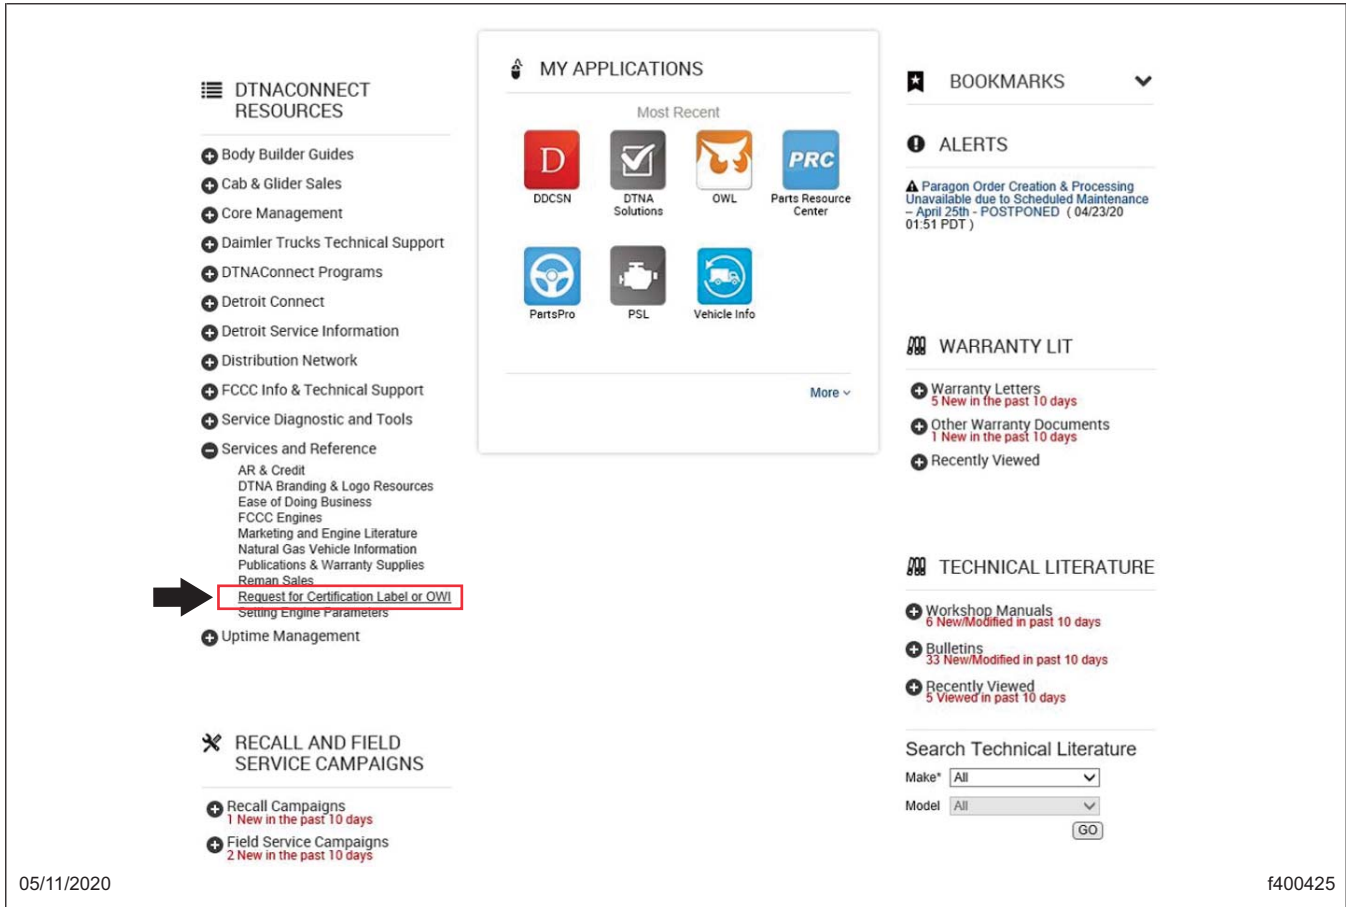

Fig. 1, DTNACONNECT Homepage
- Under “DTNACONNECT RESOURCES” on the left side of the homepage, expand the “Service and References” list, and click on “Request for Certification Label or OWL”. See Fig. 1. A page titled “Request for Replacement Vehicle Documentation” will open.